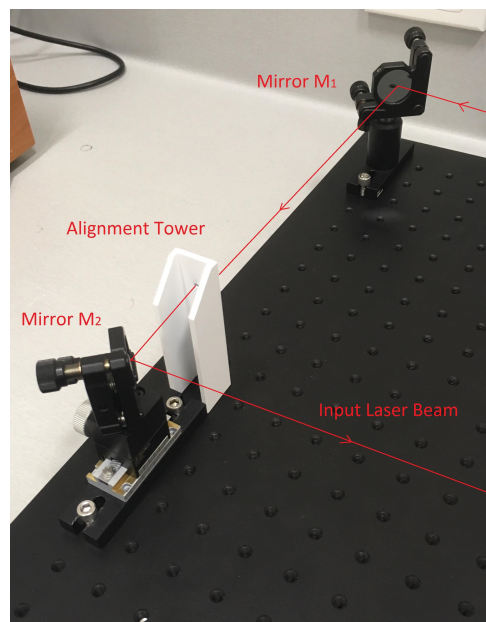

Figure 3: Laser Alignment
-Place the alignment tower next to the mirror M_2 , on the side closest to the mirror M_1 as in the Figure 3 below.